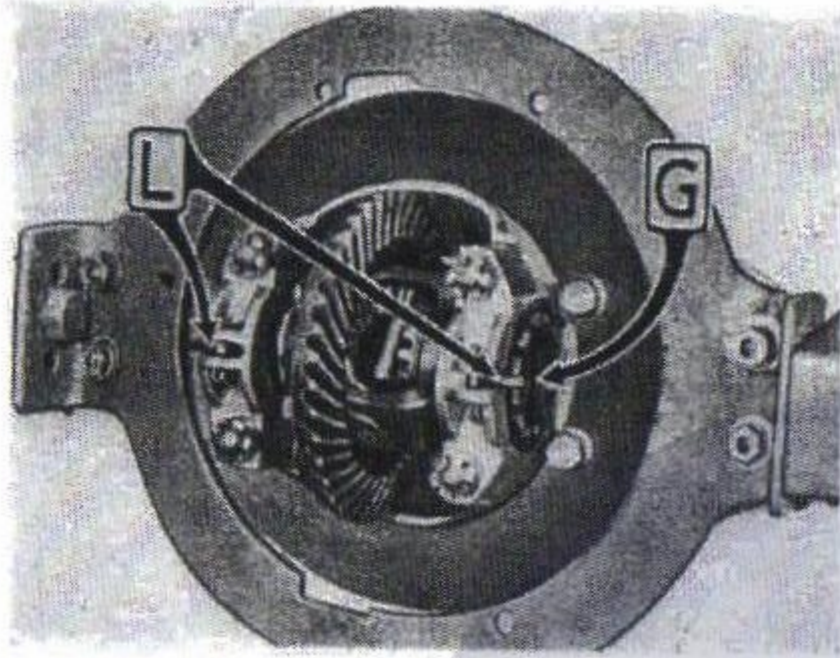

Fig. 82.
The side movement of the differential inner box and the bearings play adjustment is effected by actuating the lock rings (G, Fig. 82) after having lifted the retaining clips (L).